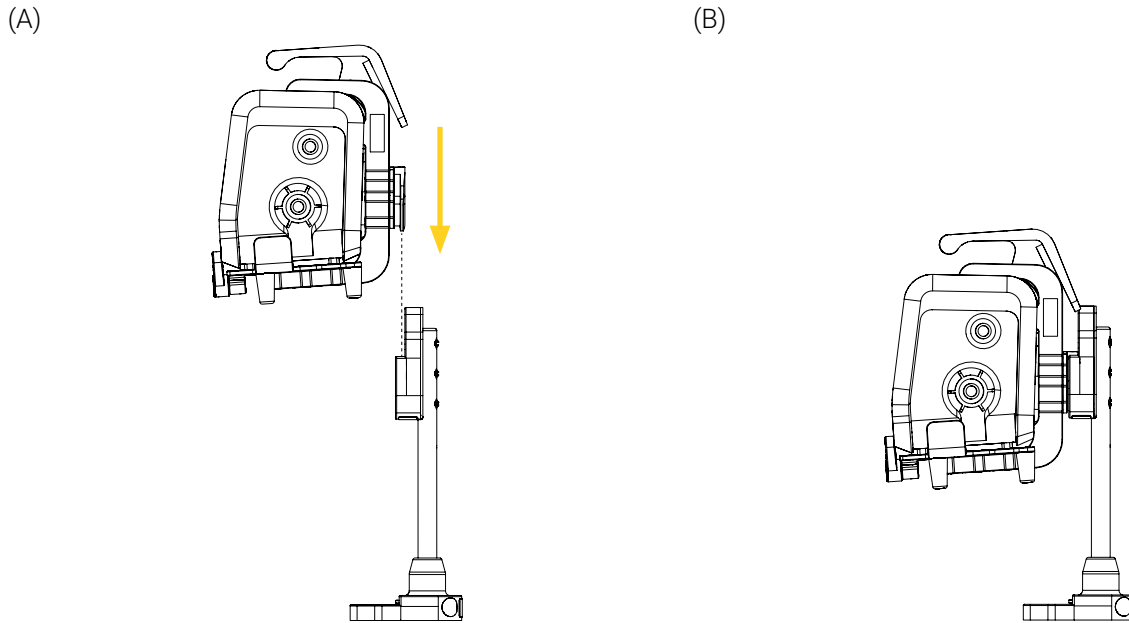
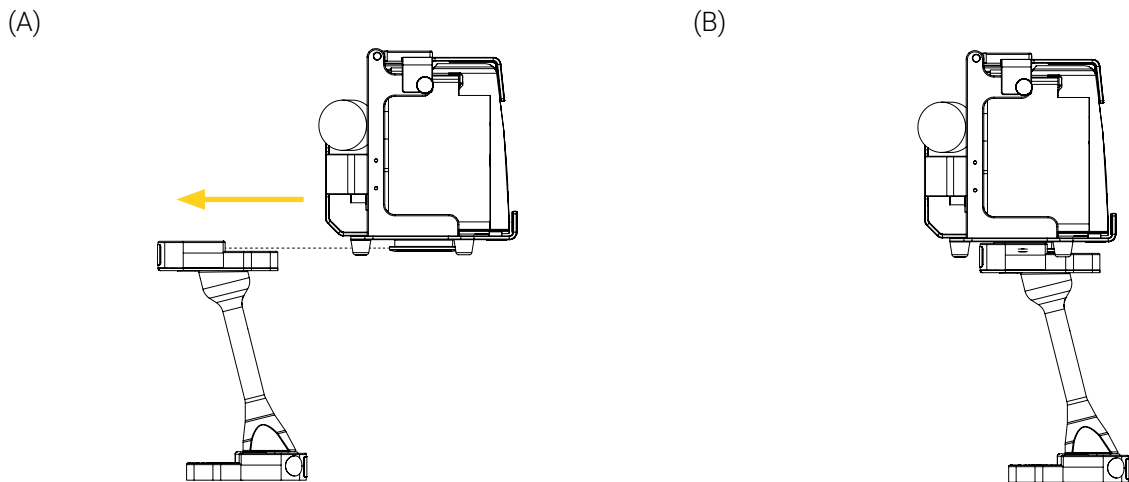

Figure 15: Installing the medical device in the Safety MD-Transporter (vertical, standard/short)
Figure 16: Installing the medical device in the Safety MD-Transporter (horizontal, angular)
1. Align and insert the anti-rotation micro disc located at the back of the medical device's mounting bracket in the Safety MD-Transporter vertically (Figure 15) or located under the medical device's mounting bracket in the Safety MD-Transporter horizontally (Figure 16) until it locks.